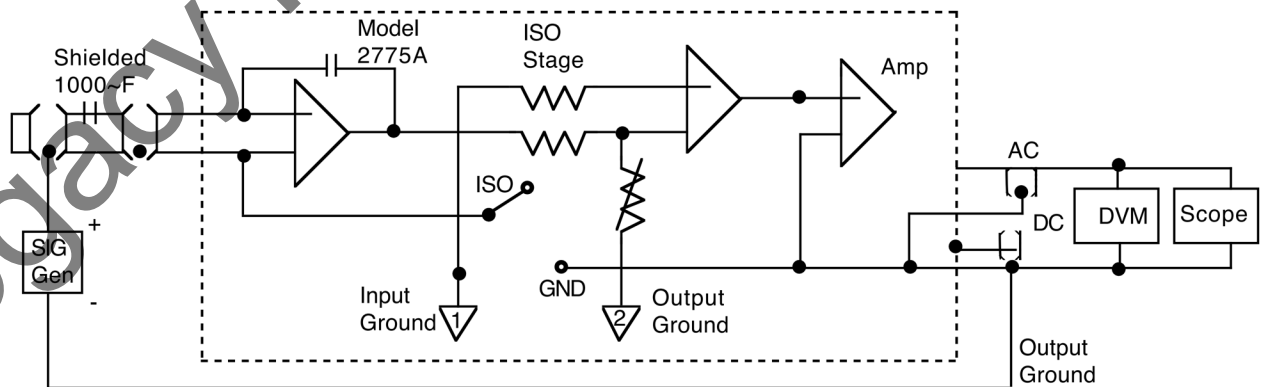

FIGURE 5-6: COMMON MODE
- A. With the AC ADJ adjusted for 1Vpk full scale, set the FUNCTION switch to OP and the INPUT switch to ISO. Connect a shielded 1000 pf capacitor to the PE input and ground the capacitor input to the shield of the capacitor. Connect a 100 Hz 4.242 Vrms sine signal across ground #1 (the shield of 1000 pf capacitor) and ground #2 (the outer shell of the DC OUTPUT) using ground #2 as signal common. Measure the output voltage at the AC OUTPUT using a DVM in the ac mode and monitor the signal with the oscilloscope. The maximum common mode voltage is 4.24 mVrms. (See Figure 5-6).